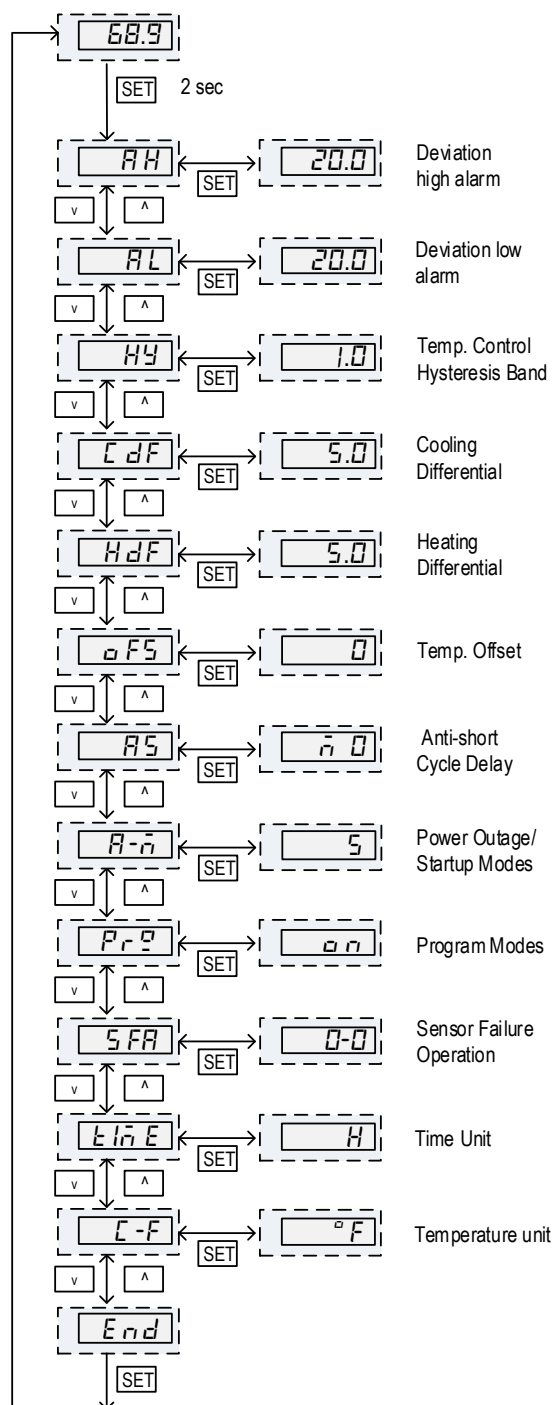

Figure 3. Flow chart of setting up parameters.
**Parameter Setting Mode:** Review and edit system parameters. When the controller is in Program Run, Hold, or Stop mode, hold the SET key for 2 seconds to enter the Parameter Setting mode. Please see Figure 3 for details.